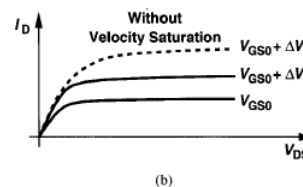

Figure 16.9 Effect of velocity saturation: (a) premature drain current saturation, (b) reduction of transconductance.
- Fig. 16.9 a) constant current for increasing V_{DS} . Fig. 16.9b): smaller increase in $I_D(V_{GS})$ than normal.